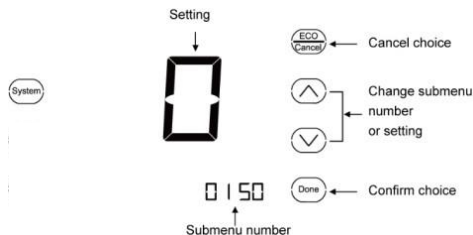

Fig.22-3.
2. Press  or  key to select the submenu, and press the  key to enter the submenu. Under submenu use  or  to change the settings. See Fig.22-3.